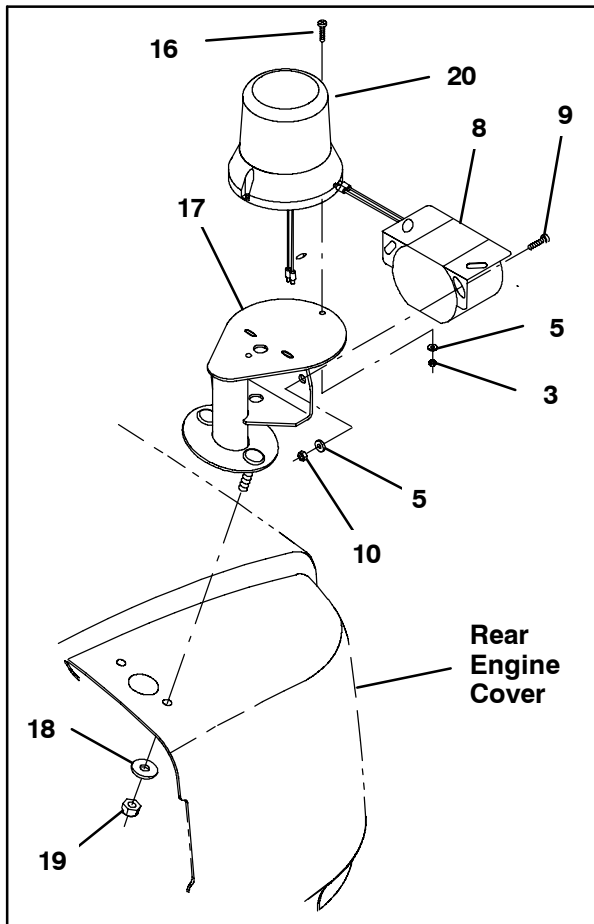
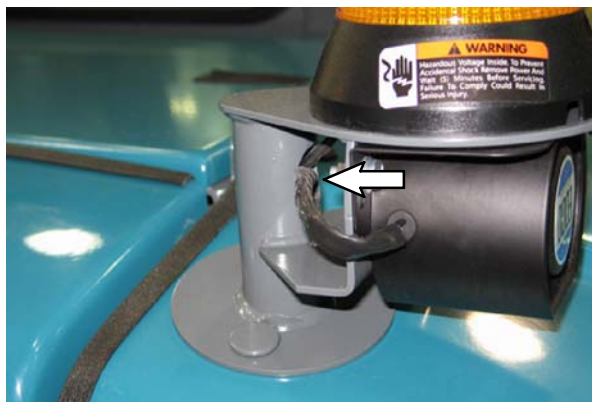
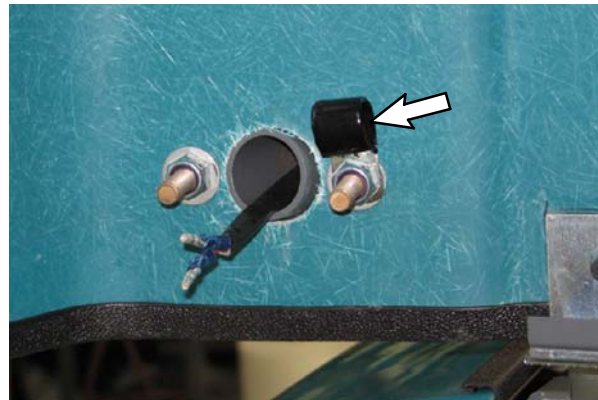

FIG. 2
FIG. 3
FIG. 4
Use two pan screws (16), two washers (5), and two hex nuts (3) to install the light (20) onto the light bracket (17). Refer to Fig. 2.
4. Use two pan screws (9), two washers (5), and two hex nuts (10) to install the backup alarm (8) onto the light bracket (17). Refer to Fig. 2.
5. Route the cable from the backup alarm (8) (and the light (20) if light is installed on the light bracket (17) through the hole in the bracket and the larger hole in the rear engine cover. Refer to Fig. 2 and Fig. 3.
6. Use two hex nuts (19) and two washers (18) to install the light bracket (17) and cable clamp (22) onto the rear engine cover. Refer to Fig. 2 and Fig. 4.